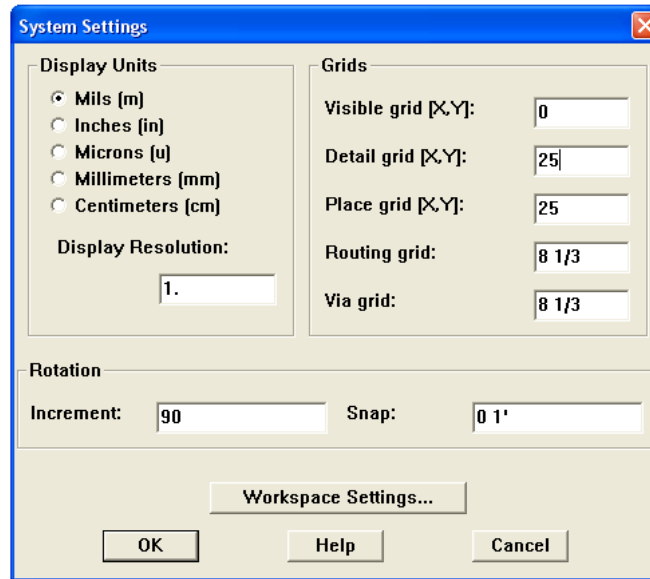

Figure 5.5: Adjusting the System Settings
2. Click → **Options | System Settings** (**See Figure 5.5**)